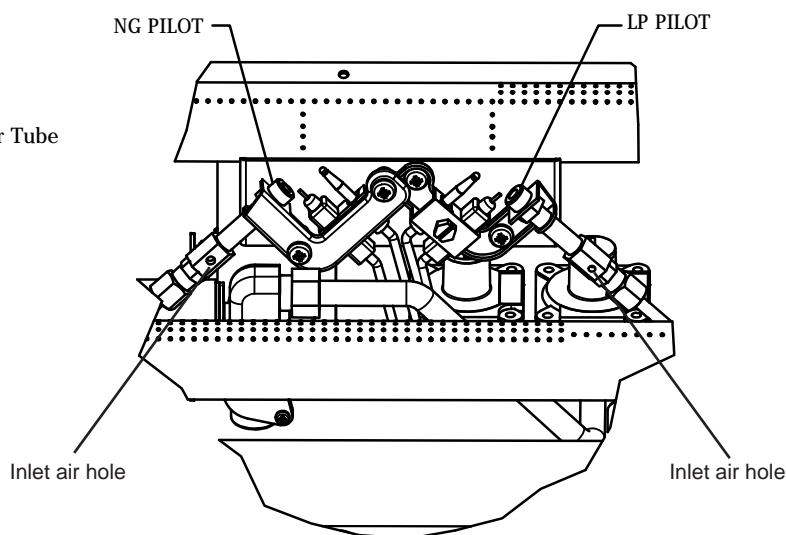

Fig. 32 - Pilot Inlet Air Hole (Propane/LP Gas)
6. In case any large clumps of dust have now been pushed into the burner repeat steps 3 and 4. Clean the pilot assembly also. A yellow tip on the pilot flame indicates dust and dirt in the pilot assembly. There is a small pilot air inlet hole about 2" from where the pilot flame comes out of the pilot assembly (see Figure 32). With the unit off, lightly blow air through the air inlet hole. You may blow through a drinking straw if compressed air is not available.